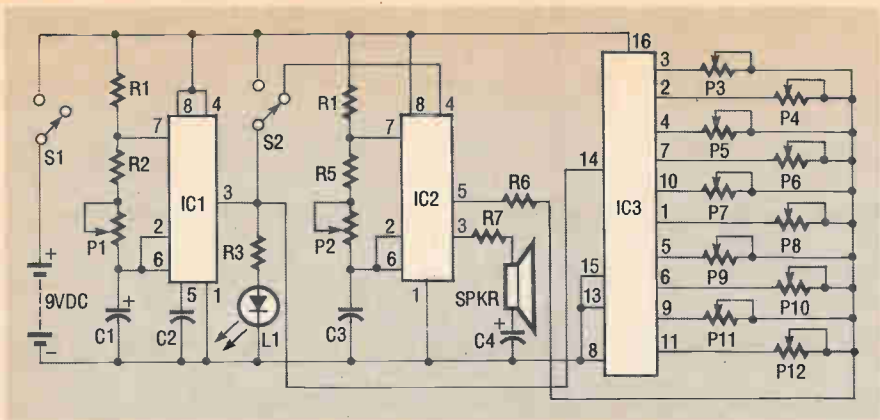

Figure 1. The schematic of the 10-note sound synthesizer, which is built around two 555 timers and a 14017 divide-by-10 counter (IC3).
As you can see in the schematic (Figure 1), three IC's are used to produce the computer and robot sounds. IC1 is a 555 timer that is used to generate clock pulses. It is configured here as an astable multivibrator. The frequency of the clock pulses is set by trimmer potentiometer P1, a variable resistor. Those clock pulses are coupled to the input of IC3 (a 4017 CMOS Johnson
1. Follow the schematic (Figure 1) and the parts-placement diagram shown in Figure 2, and refer to the Parts List as needed. Be sure to use only 60/40 rosin-core solder -- do not use acid-core solder!